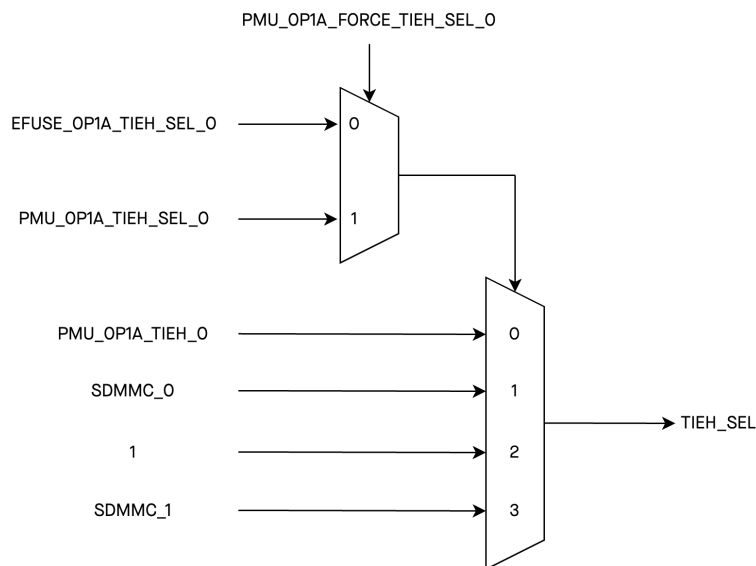

Figure 14.4-3. VO1 Mode Control
- The mode control for VO1 is shown in Figure 14.4-3. In the figure, TIEH_SEL on the right being 0 selects LDO mode; being 1 selects bypass mode.